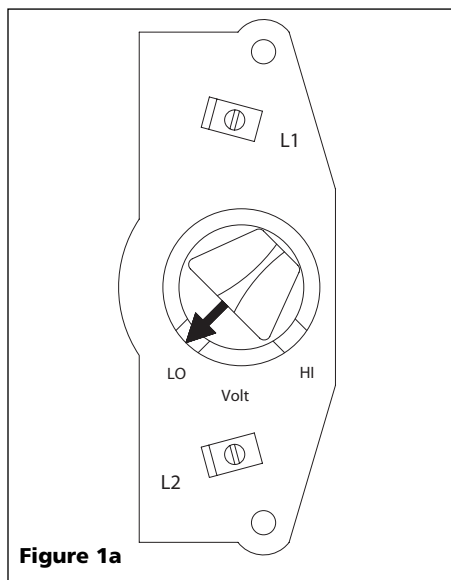

Figure 1a
2. Remove cover from back of motor to find voltage selector (Figure 1a).